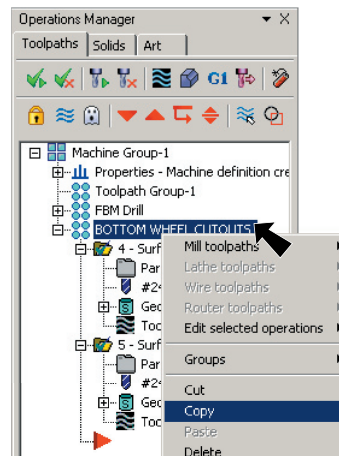

Fig. 51
Step 1. **Right click BOTTOM WHEEL CUTOUTS Toolpath group** in the Ops Manager and click **Copy** from the menu, **Fig. 51**.